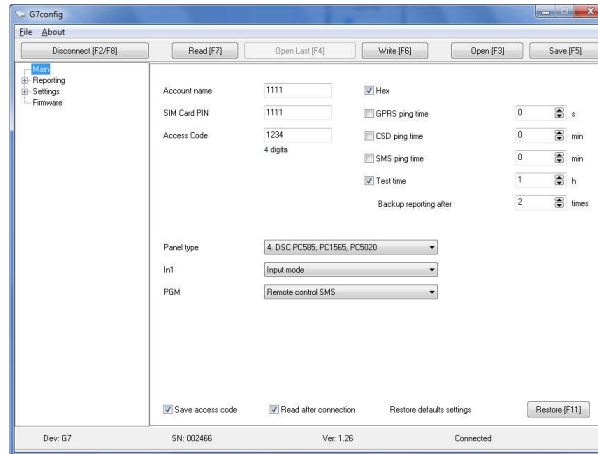

Figure 9 View of window Main
- 7.1.8 The window **Main** (see *Figure 9*) is intended for entering common parameters of module G7.